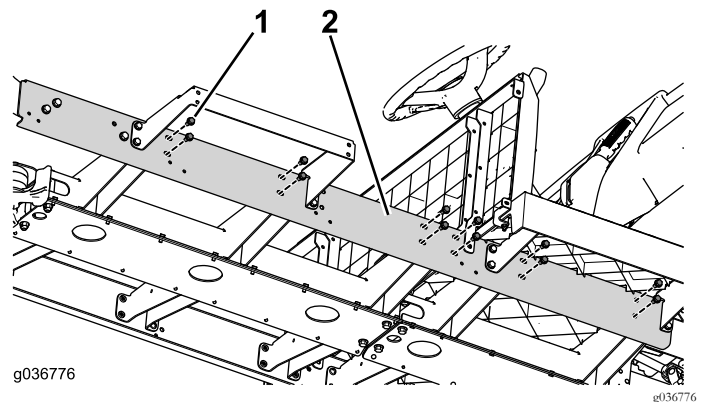

Figure 31
7. Install the remaining channel hardware (Figure 31).